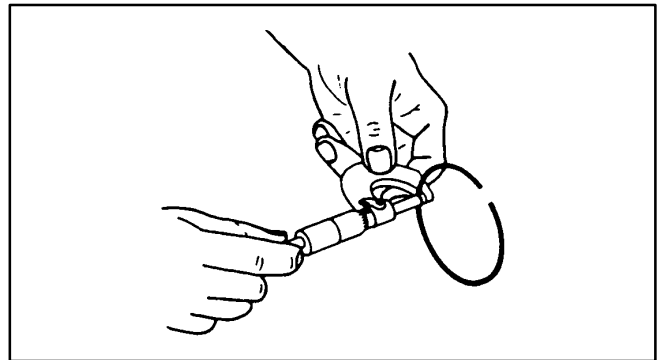

FIGURE 9-28. RING THICKNESS
1. Measure the piston ring thickness with an outside micrometer (see Figure 9-28).